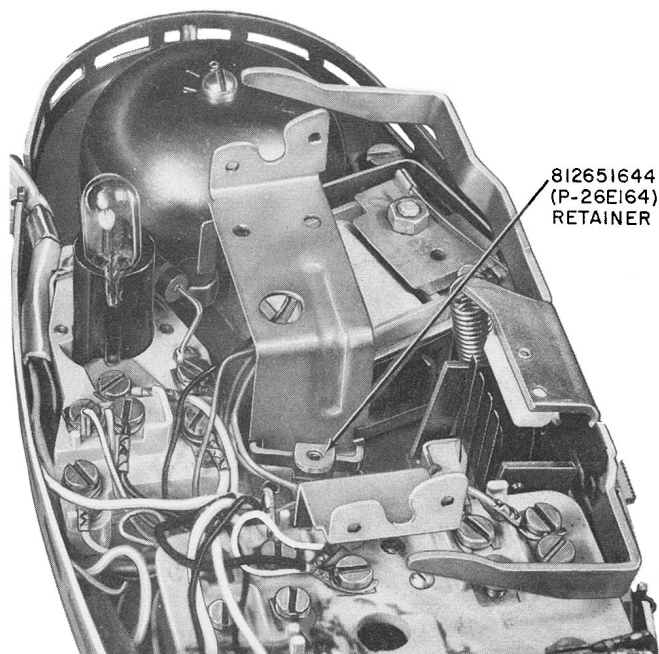
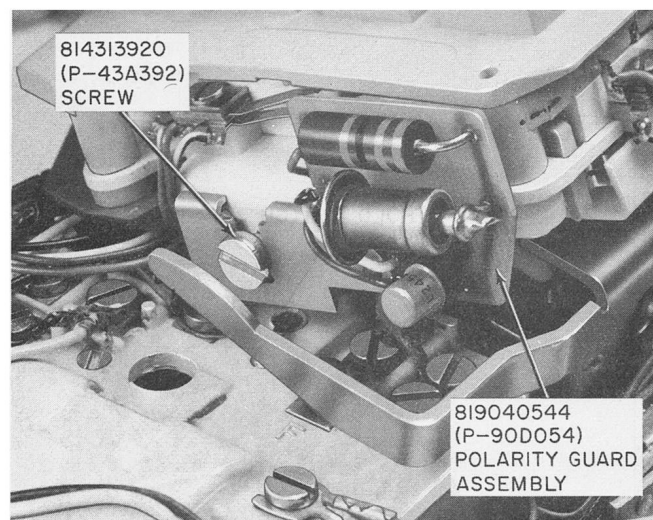

Fig. 7—Installing Terminal Board Retainer in PRINCESS Telephone Set
Fig. 8—Polarity Guard Mounted in PRINCESS Telephone Set
- (1) Remove housing; loosen dial mounting screws and move the dial to one side without disconnecting the dial leads.
- (2) Insert the 812651644 (P-26E164) retainer in left-hand dial mounting bracket (Fig. 7).
- (3) Insert tabs of 812166759 (P-21F675) terminal board into notches in right-hand dial mounting bracket and secure to retainer using 814313920 (P-43A392) screw.
- (4) Connect polarity guard in accordance with connections shown in Table D.
- (5) Reinstall dial on mounting bracket, securing the 819040544 (P-90D054) guard assembly mounting bracket under the right-hand dial mounting screw (Fig. 8).
- (6) Reinstall housing.